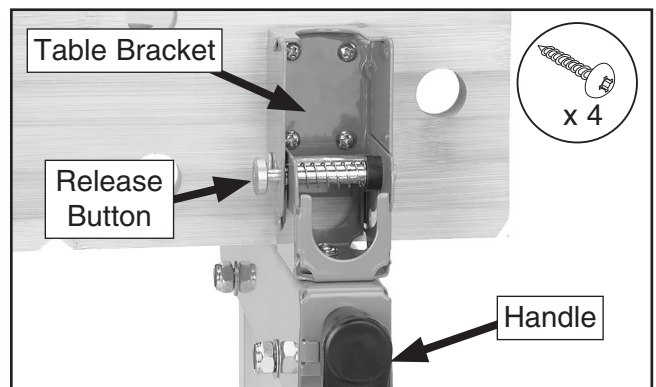

Figure 3. Table bracket installed on bottom of front table top.
2. Press the release button on a table bracket (**Figure 3**), swing it open, then place the bracket on the bottom of the front table top. Position the handle on the side of the table top with the measuring scale.
3. Secure the table bracket to the front table top with (4) tap screws, as shown in **Figure 3**.